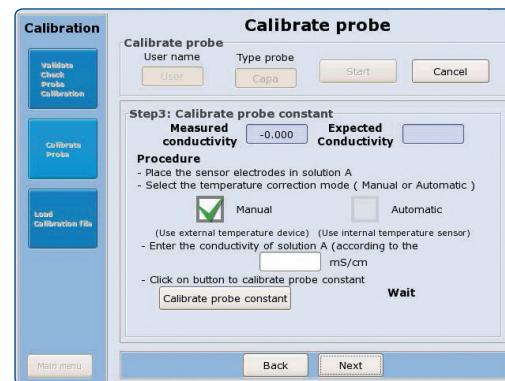

Figure 3: Calibration of the Sensor Constant.
10. Press Calibrate sensor constant to start the Calibration (Figure 3). The successful Calibration is indicated. If this procedure fails it is recommended to contact the local representative.